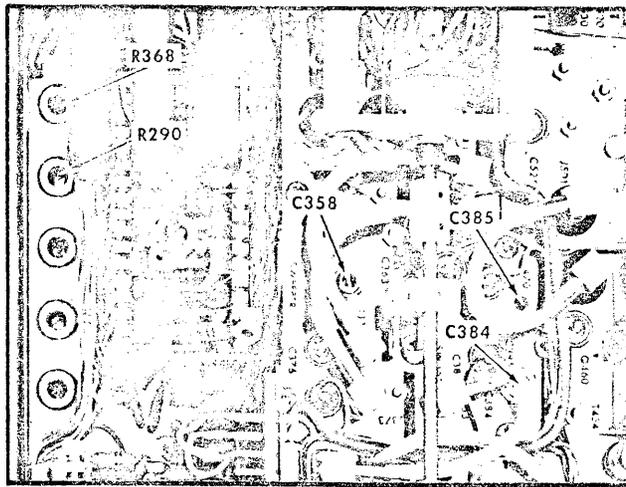
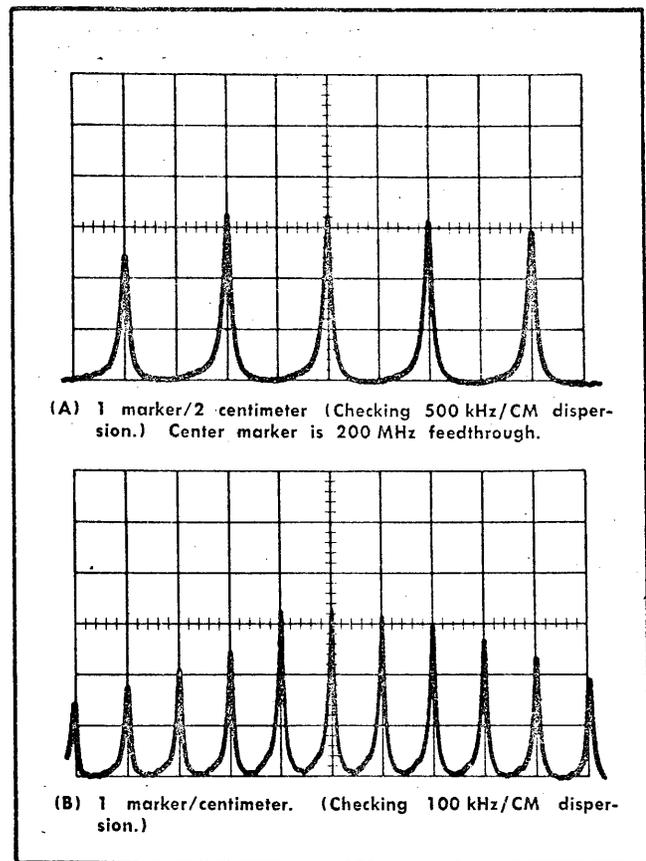

Fig. 6-14. Location of kHz/CM dispersion adjustments.
Fig. 6-15. Typical displays when checking or adjusting kHz/CM dispersion.
- c. Adjust C384 and C385 (Fig. 6-14) for 1 marker/2 centimeters (Fig. 6-15). Adjust these capacitors simultaneously in opposite directions. This will keep the 200 MHz feed-through signal centered in the graticule area.
- d. Adjust the kHz/Cm Cal R368 (Fig. 6-14) for optimum dispersion linearity. See Fig. 6-15.